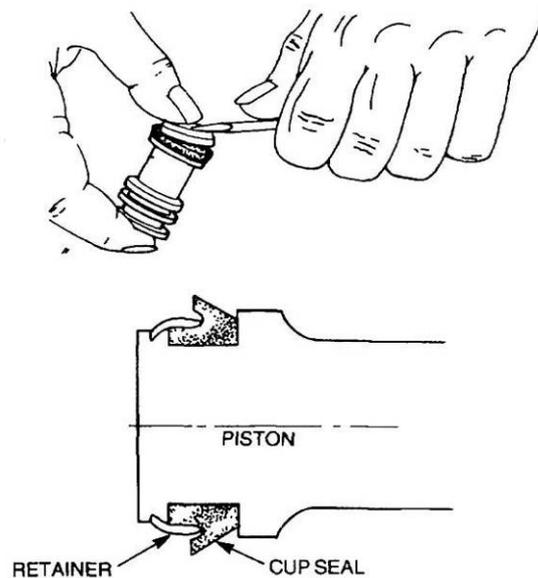

Figure 282 Installation of the Seal Retainer
- Locate part of the cup seal retainer in the groove on the piston and hold the retainer in position (Figure 282). Using a small screwdriver, clip the retainer into the groove ensuring that the cup seal is not damaged.
- Install a new cup seal into the shallow groove at the spring end of the primary piston ensuring that the seal lip faces towards the spring end. Locate part of the cup seal retainer in position (Figure 282). Using a small screwdriver, clip the retainer into the groove ensuring that the cup seal is not damaged.